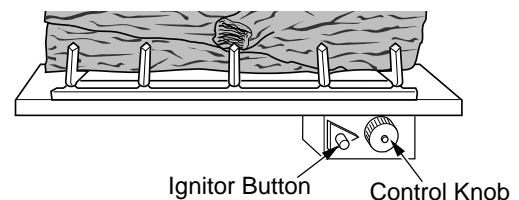

Figure 27 - Control Knob and Ignitor Button Location
3. Turn control knob clockwise  to the OFF position (see Figure 27).
4. Wait five (5) minutes to clear out any gas. Then smell for gas, including near the floor. If you smell gas, **STOP!** Follow "B" in the safety information above. If you don't smell gas, go to the next step.
5. Turn control knob counterclockwise  to the PILOT position. Press in control knob for five (5) seconds (see Figure 27).